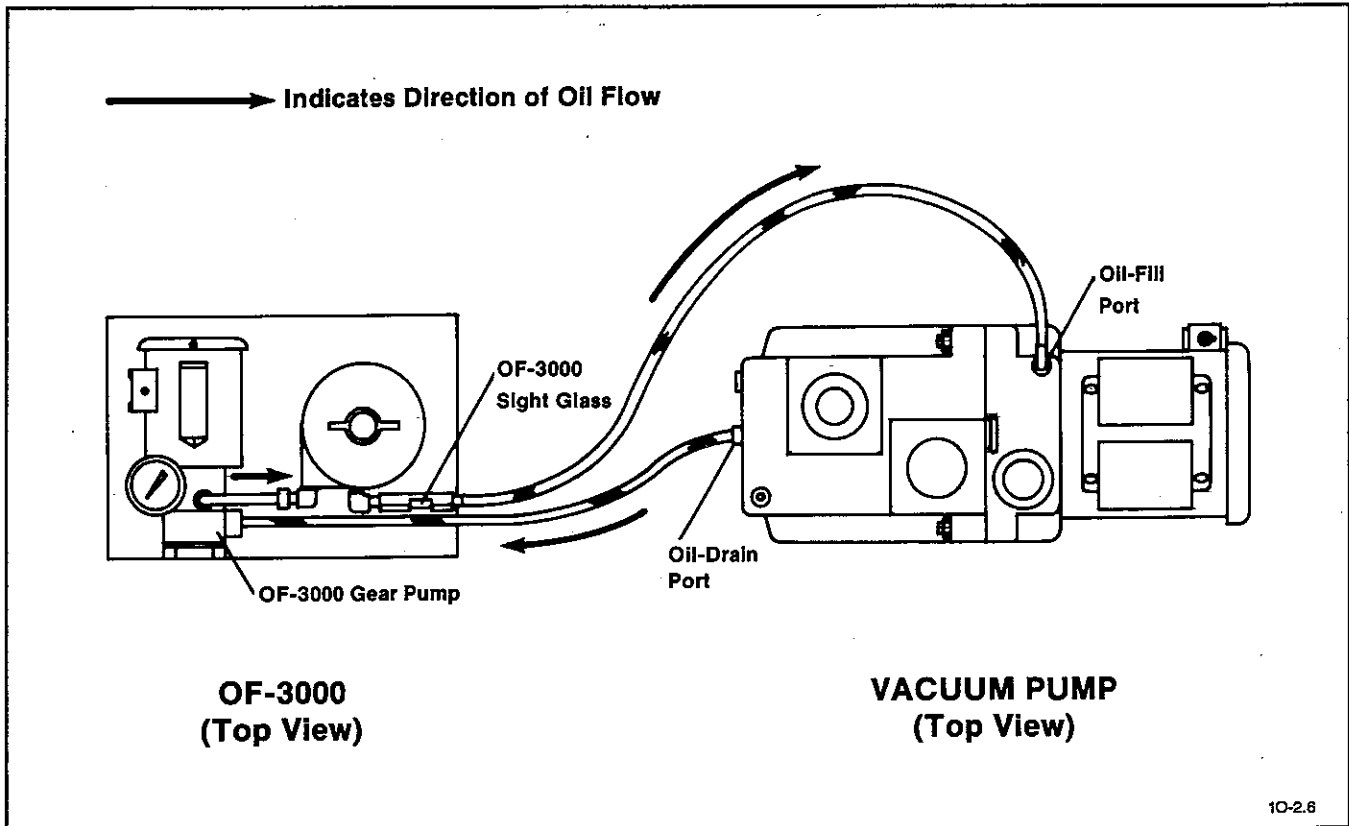

Figure 2-2. Sketch of the OF-3000 Connected to a Vacuum Pump
- Ensure that the OF-3000 hoses are connected to the correct oil ports on the vacuum pump (see Figure 2-2). If the hoses are connected to the wrong ports, the OF-3000 gear pump could be damaged from pumping air.
3. NOTE: Connect the OF-3000 hoses to the vacuum pump as shown Figure 2-2 so that you get a good cross flow of oil through the vacuum pump. Don't connect the OF-3000 hoses to the vacuum pump so that the oil-fill hose is directly above the oil-drain hose; if the oil-fill and -drain hoses are connected on the same end of the vacuum pump, some of the filtered oil will be drawn directly back into the OF-3000 rather than circulating through the vacuum pump.
- 3) Screw the stem/elbow/gasket assembly into the vacuum pump's oil-drain port (see Figure 2-2).
- 1) Connect the hose with the sight glass to the quick-connect stem on the vacuum pump's oil-fill port (see Figure 2-2).
- 2) Connect the other hose (the one that attaches to the bottom of the OF-3000 gear pump) to the quick-connect stem (13) on the vacuum pump's oil-drain port (see Figure 2-2).
1. Ensure that the OF-3000 hoses are connected correctly (see Figure 2-2).
Check the pressure reading on the OF-3000 oil-pressure gauge and check the appearance of the oil through the OF-3000 sight glass every day (see Figure 2-2).